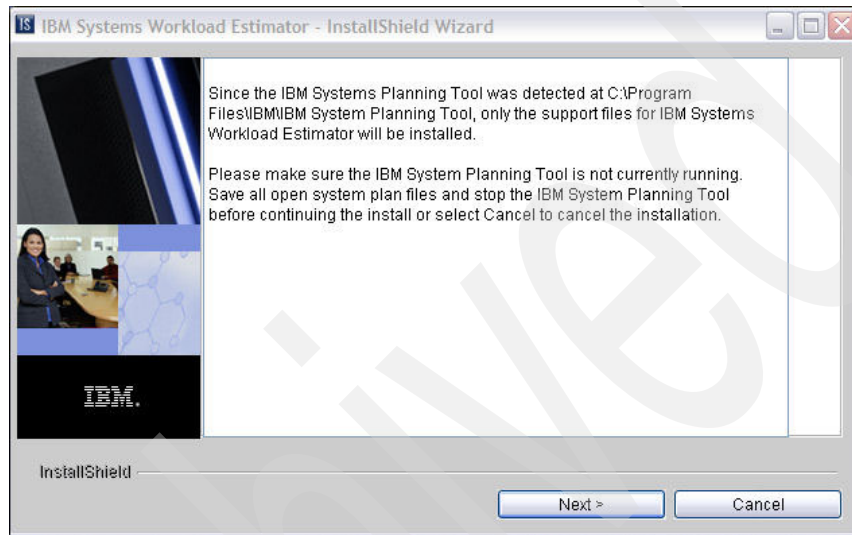

Figure B-14 SPT detection and warning message
11. The install process detects that the IBM Systems Planning Tool is already installed in the PC and therefore it will only install the WLE support programs and not the full WLE install. This means that WLE can only be started from inside SPT. There is also a warning message. This reminds you to make sure that SPT is not running. We assume that you have stopped SPT, so click **Next** to continue (Figure B-14).